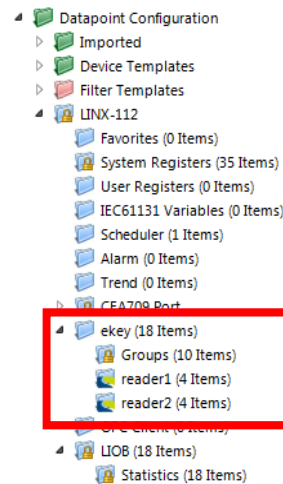

Figure 187: Data Point Manager with ekey device folders.
- The folder list (Figure 187),